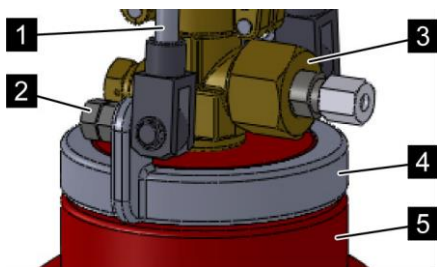

Fig. 146: Suspension
8. ➔ Unscrew the hex nuts (Fig. 146/2) on the suspension of the pilot cylinder.
⇒ The holding rods (Fig. 146/1) are detached.
10. ➔ Unscrew the adapter (Fig. 146/3).
11. ➔ Unscrew the suspension element (Fig. 146/4) from the pilot cylinder (Fig. 146/5).
12. ➔ Screw suspension element (Fig. 146/4) onto a new pilot cylinder.
13. ➔ Fasten the holding rods (Fig. 146/1) with eye bolts and hex nuts (Fig. 146/2) on the suspension element (Fig. 146/4).